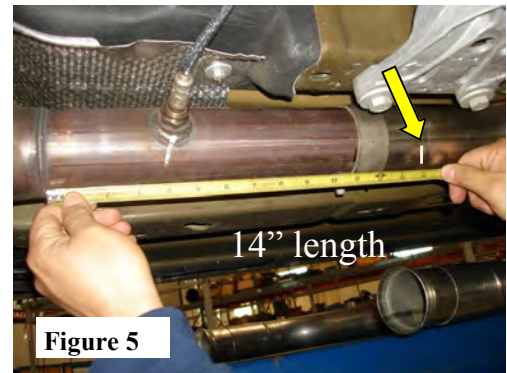

Figure 5
- GT500 ONLY:** Measure/mark a line that is 14" from catalytic converter on the factory H-Pipe, both sides. Carefully make a straight cut on each pipe and remove factory H-Pipe. Carefully de-burr edge and remove any metal shavings from the pipes. (See Fig. 5)